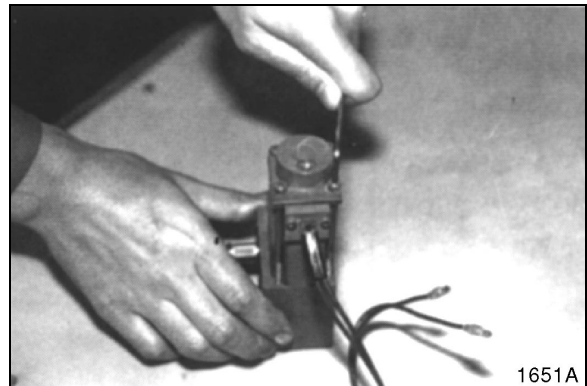

Figure 58
1. Remove hex bolts and detach cover. See Figure 58.